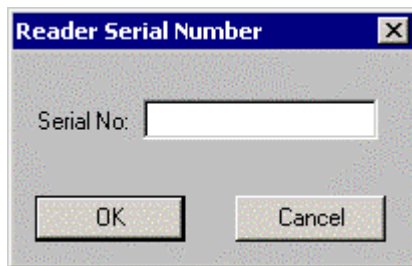

Figure 2-1 The Reader Serial Number Dialog Box
- 5 The monitor will present a welcome screen and the *Reader Serial Number* dialog box (Figure 2-1). Enter the serial number and press **OK**.